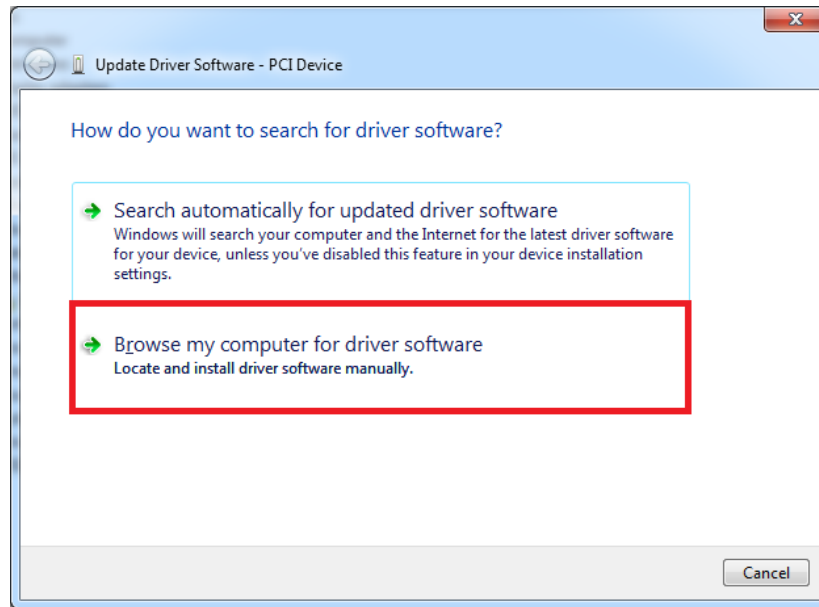
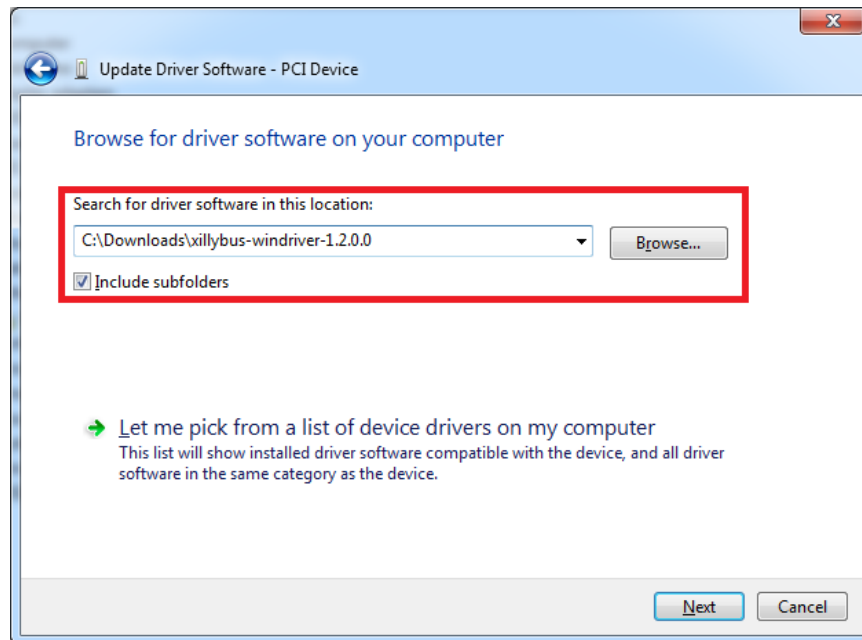

Figure 64 Browse for driver software
Figure 65 Select driver location
7. Select Browse my computer for driver software (Figure 64) and in browse window (Figure 65) choose driver from downloaded package (extracted files from xillybus-windriver-1.2.0.0.zip).